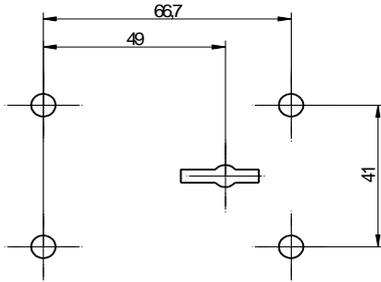

Fig. 3: Mounting hole pattern
- For installation and adjustment of the lock on the door, make sure that the key can be inserted into the lock without having to apply force and without jamming. This can be achieved by mounting the lock according to the following pattern of mounting holes (Fig. 3). For further lock dimensions please refer to the Kaba Mauer Catalogue Sheet.